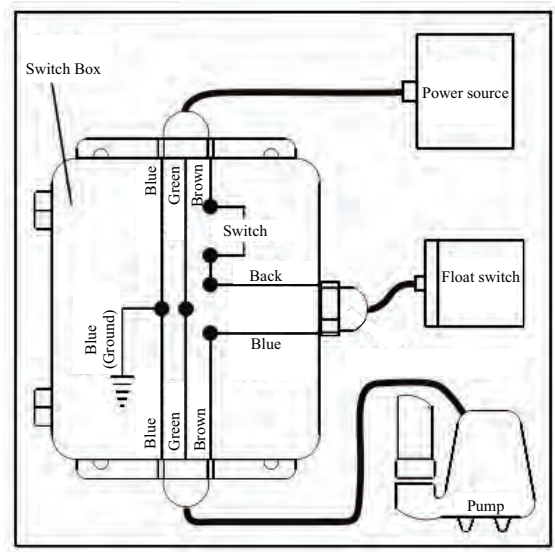

Figure 6
Step 1: Connect the electric circuit as the diagram (Figure 6).